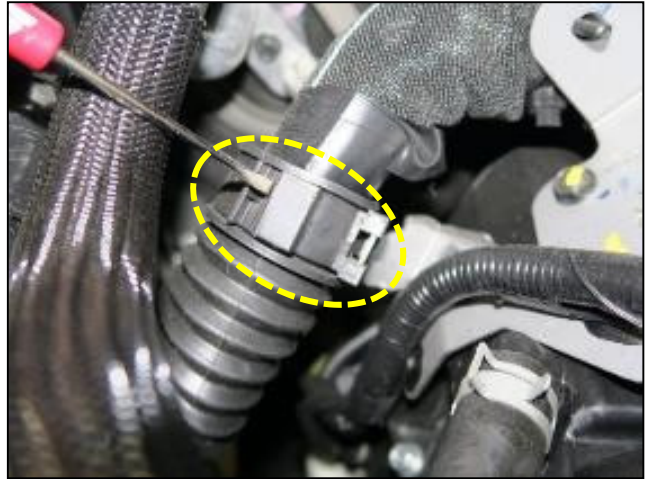

Figure 7
5. Remove the EGI harness from the harness retainer clip as shown in Figure 7.